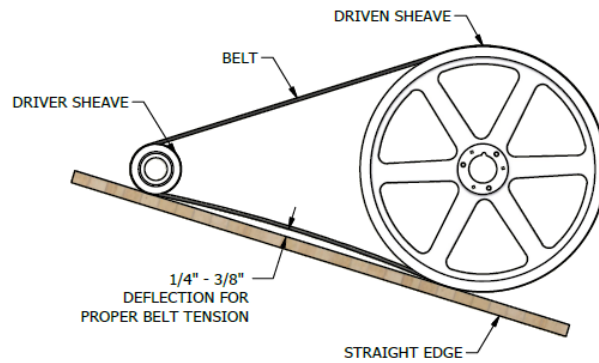

Figure 51: Belt deflection
3. Using your hand, apply a moderate force (about 40 lbs (4.5 Nm)) evenly across the width of the belt in the center of the belt span between the sheaves. If the belt deflects between 1/4" (6.5 mm) and 3/8" (9.5 mm) per **Figure 51**, then the belt tension is adequate.